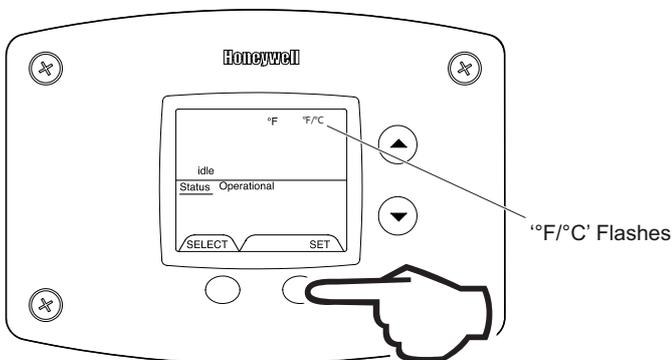

Fig. 66
- Press 'Set' button to change temperature format. '°F/°C' symbol will flash in the water heater display (Fig. 66).